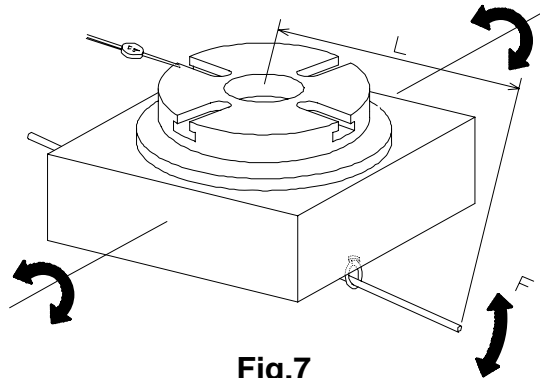

Fig.7
- 2) Read the value of dial gauge at the position where the table stops after rotating the tilting body slowly in one way with the flat steel or round bar inserted in eye bolts screwed in tap holes on the table back face (with worm wheel gear tooth attached). At this time, for the torque added to the tilting body, refer to the list created later. Next, rotate the tilting body under the same condition in the reverse direction to read the value of dial gauge. This difference of measured values is the backlash. (See Fig.7)